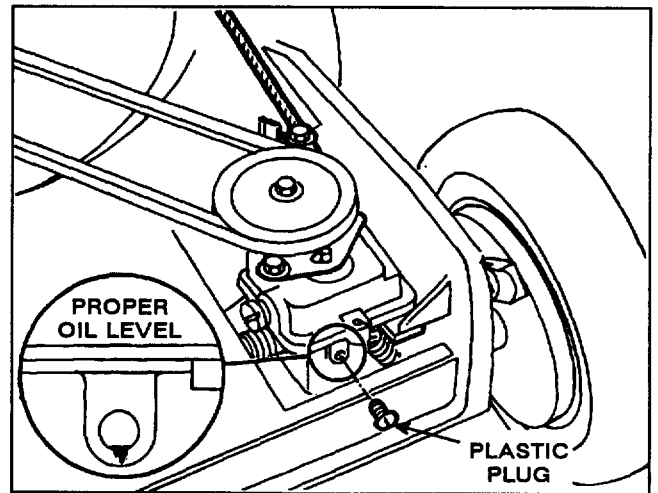

Figure 21
3. CHECKING GEAR OIL LEVEL (Fig. 21)—Position mower on level surface and clean around plastic plug. Remove plastic plug and watch for oil to ooze out of hole. If gear oil oozes out, quickly install plastic plug because oil is at proper level. If oil does not flow, add gear oil: see step 4.